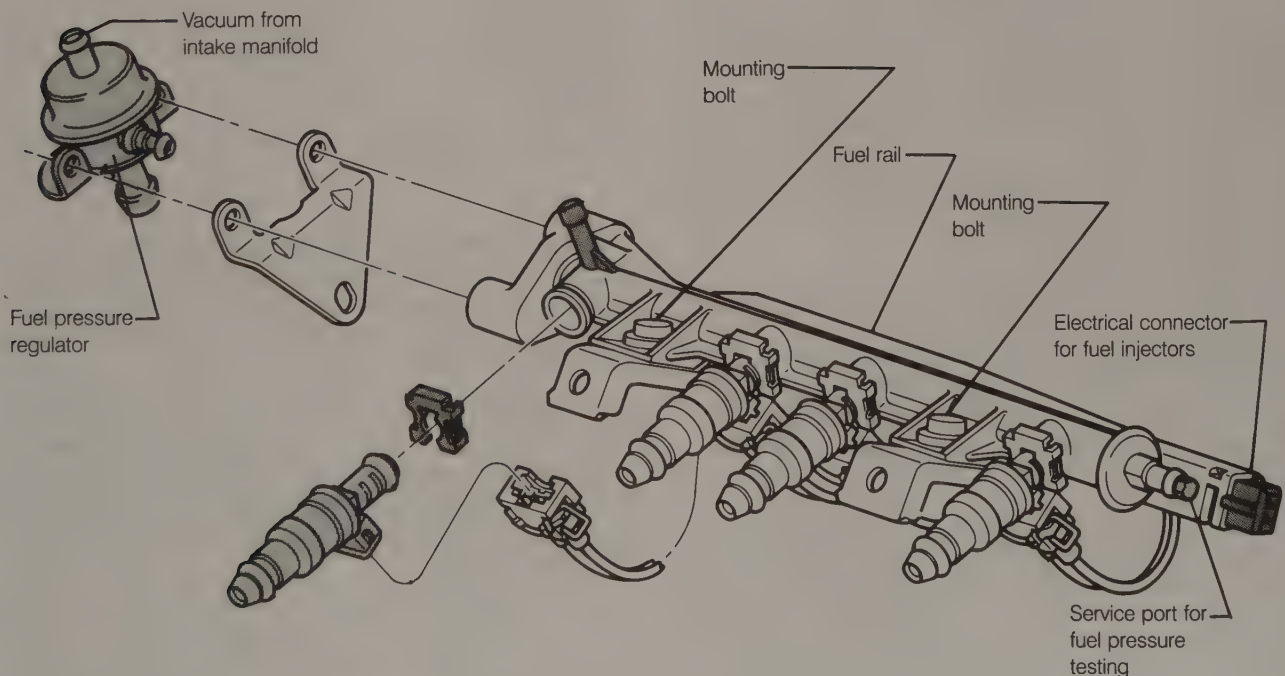

Fig. 7-16. Digifant II fuel rail showing location of sealing screw for service port. Service port is used for fuel pressure testing.
1. Loosen and remove the service port sealing screw shown in Fig. 7-16, and connect a fuel gauge.